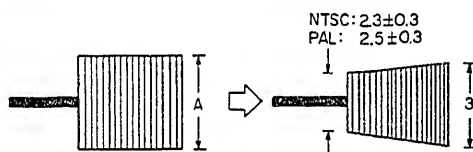
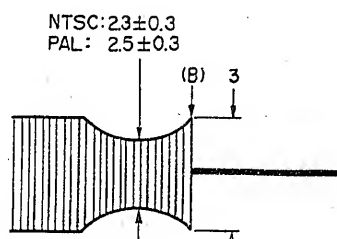
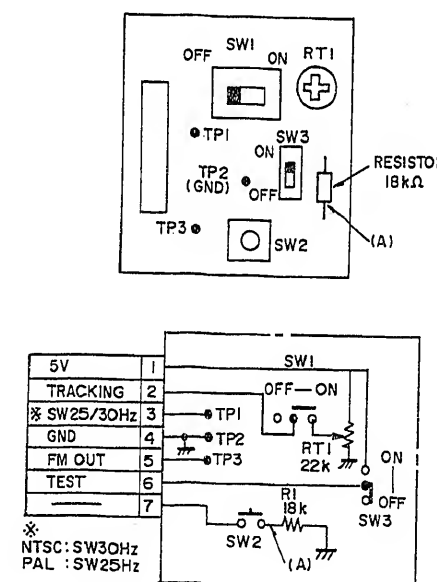

Fig. 4-1
Fig. 4-2
Fig. 6-1
<p>◆ Adjustment procedure</p> <p>Caution: Before performing this adjustment, refer to Fig. 6-1 and modify the ATF-R jig. Connect the ATF-R jig before supplying power.</p> <p>1) Load an alignment tape that has been completely rewound. Press the PLAY button and hold it, then set the POWER switch to VIDEO position.</p> <p>2) Connect an oscilloscope to TP3 on the ATF-R jig.</p> <p>3) Synchronize the oscilloscope with TP1 (SW25/30) on the ATF-R jig.</p> <p>4) Set the oscilloscope to (+) slope.</p>
#### 4. ADJUSTMENT AFTER REPLACING THE CYLINDER (Figs. 4-1, 4-2)
<p>● Adjustment procedure</p> <p>Caution: Before performing this adjustment, refer to Fig. 6-1 and modify the ATF-R jig.</p> <p>1) Load an alignment tape that has been completely rewound. Press the PLAY button and hold it, then set the POWER switch to the VIDEO position.</p> <p>2) Connect an oscilloscope to TP3 on the ATF-R jig.</p> <p>3) Synchronise the oscilloscope with TP1(SW25/30) on the ATF-R jig.</p> <p>4) Set the oscilloscope to (+) slope.</p> <p>5) Press SW2 on the ATF-R jig and hold it, then perform the following steps.</p> <p>6) Adjust the voltage level control of the oscilloscope so that portion (A) of the waveform is set to 4 graduations.</p> <p>7) Set SW1 on the ATF-R jig to ON.</p> <p>8) Turn RT1 on the ATF-R jig counterclockwise so that portion (A) of the waveform is set to 3 graduations.</p> <p>9) Adjust the height of the supply guide roller so the minimum amplitude of the waveform is set to NTSC: <math>2.3 \pm 0.3</math> / PAL: <math>2.5 \pm 0.3</math> graduations. (See Fig. 4-1)</p> <p>10) If this cannot be confirmed, adjust the height of the supply guide roller, referring to "3-3. Supply/Take-up Guide Roller Height Adjustment".</p> <p>11) Set the oscilloscope to (-) slope.</p> <p>12) Turn RT1 on the ATF-R jig so that portion (B) of the waveform is set to 3 graduations.</p> <p>13) Check that the minimum amplitude of the waveform is set to NTSC: <math>2.3 \pm 0.3</math> / PAL: <math>2.5 \pm 0.3</math> graduations. (See Fig. 4-2)</p> <p>If this cannot be confirmed, adjust the height of the take-up guide roller, referring to "3-3. Supply/Take-up Guide Roller Height Adjustment".</p> <p>14) Perform the following electrical adjustments.</p> <ul style="list-style-type: none"> <li>• Head switching point adjustment</li> <li>• Record luminance/chroma level adjustment</li> </ul> <p>Caution: After adjustment is complete, be sure to reverse the modification to ATF-R jig.</p>
#### 6. MODIFICATION TO ATF-R JIG (Fig. 6-1)